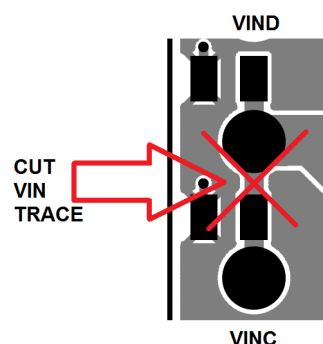

Figure 4. Separate V_{IN} Pairs by Cutting Traces at Terminals
3. The DC2311A is set up with the following power stage switch nodes and V_{IN} nodes connected together; A & B, C & D, E & F, and G & H. Any configuration using 1A or 3A regulators will require one or more of the V_{IN} and switch nodes to be separated. Refer to Table 1 to determine which power stages are connected together and separated. Cut the required V_{IN} nodes by cutting the V_{IN} traces on the bottom of the board near the V_{IN} terminals as shown in Figure 4.